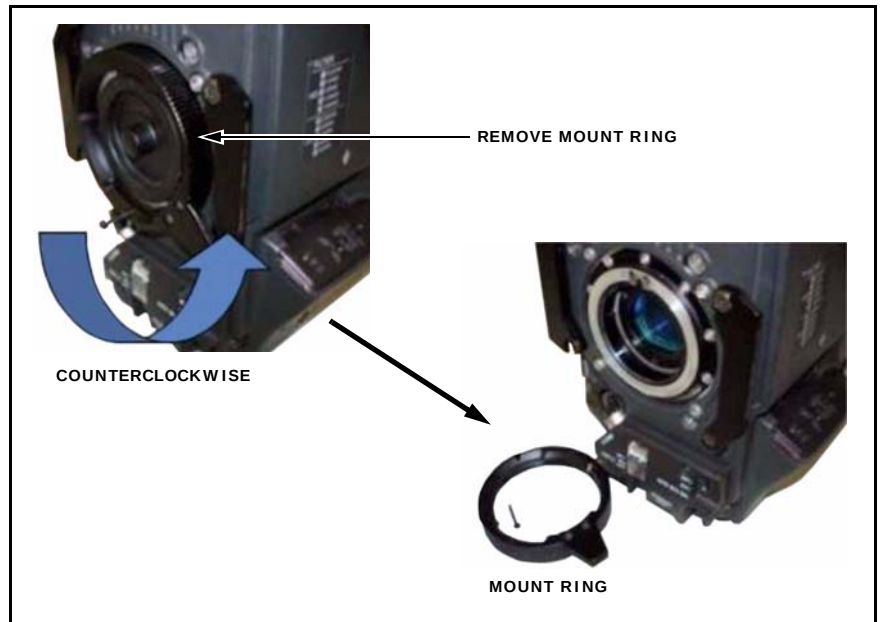

Figure 3
3. Turn the mount ring counterclockwise, and detach the mount ring. (See Figure 3.)